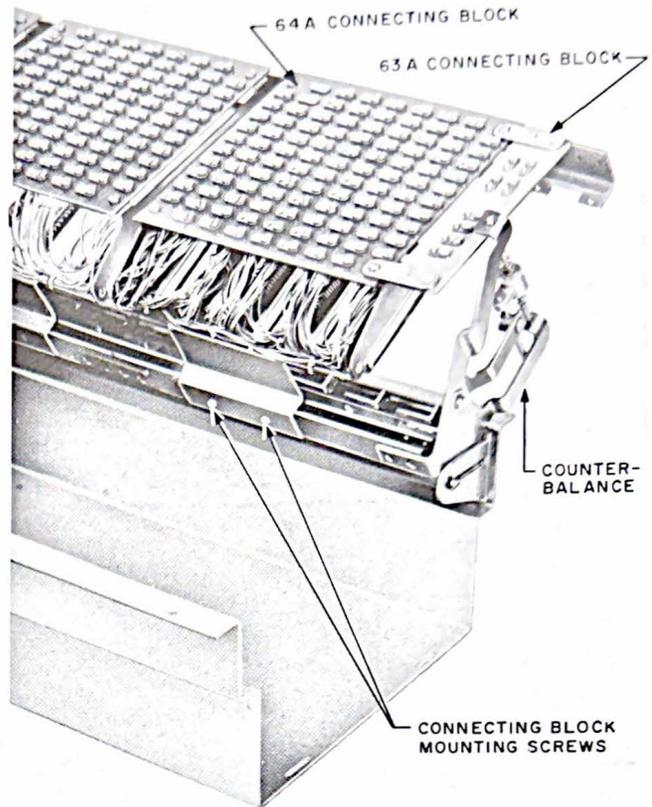

Fig. 4 — 400-Type Mounting, Open Position
2.05 Fig. 4 shows the 400-type mounting in the open position.